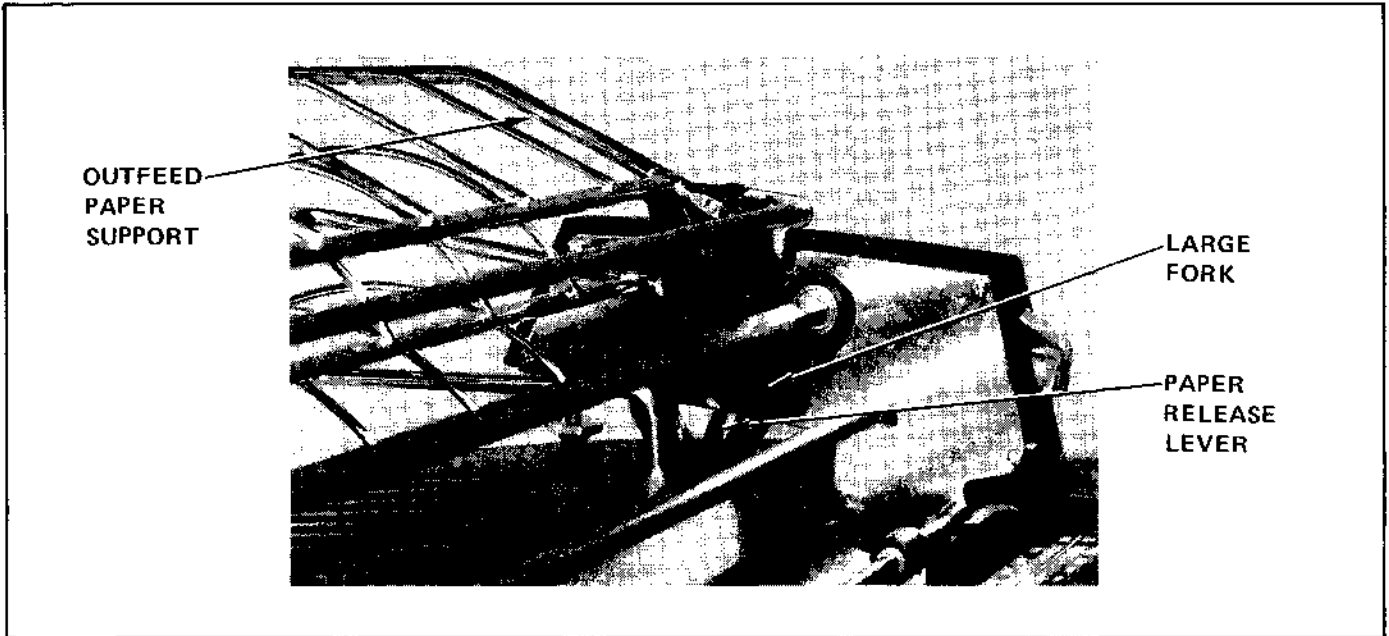
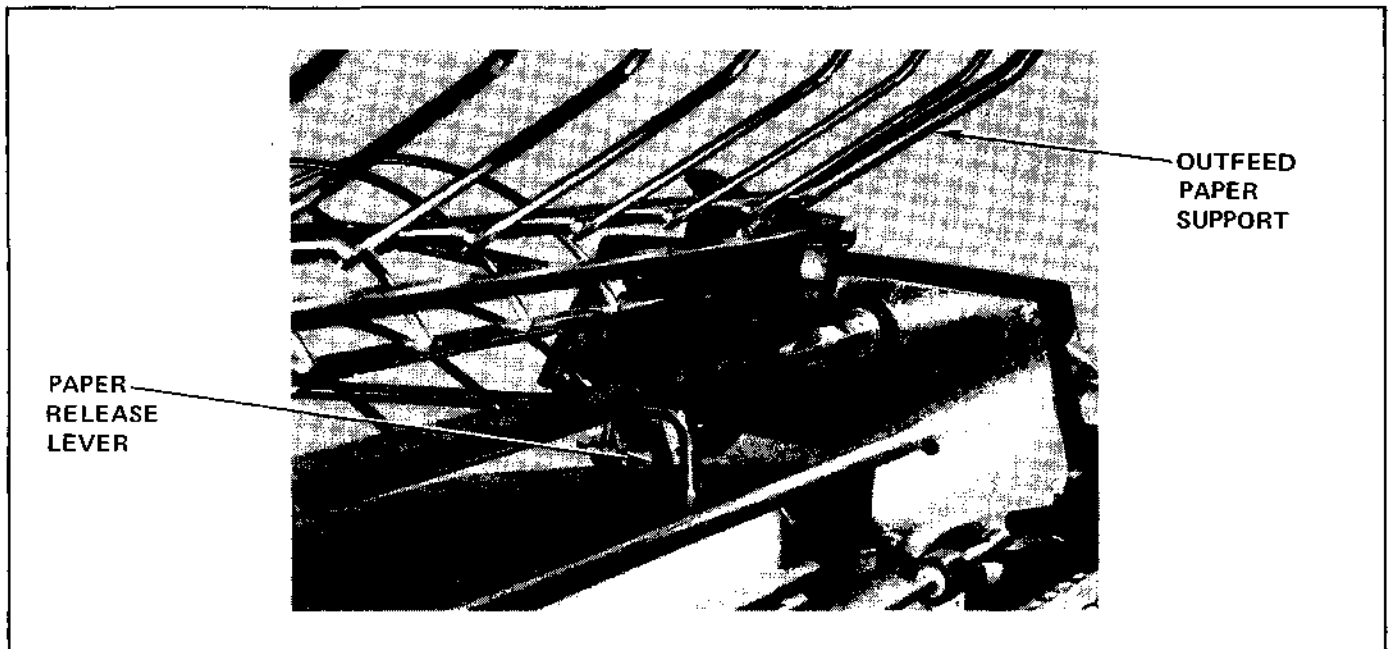

Figure 2-14. Forms Tractor and Paper Release Lever (Tension Removed)
Figure 2-15. Forms Tractor and Paper Release Lever (Tension Applied)
- (4) Guide the large fork inside the right end of the forms tractor around the paper release lever, as shown in Figure 2-14.
- (5) Press the two clamp buttons in and lower the forms tractor down on the platen shaft. Release the clamp buttons to clamp the assembly to the platen.
- (6) Tilt the outfeed paper support forward and verify that the paper release lever snaps to its rearward position (Figure 2-15), to apply pressure to the paper and platen. Swing the outfeed paper support back to its normal position and verify that the paper release
lever is pulled forward, as shown in Figure 2-14. This is the normal operating position with paper tension released.